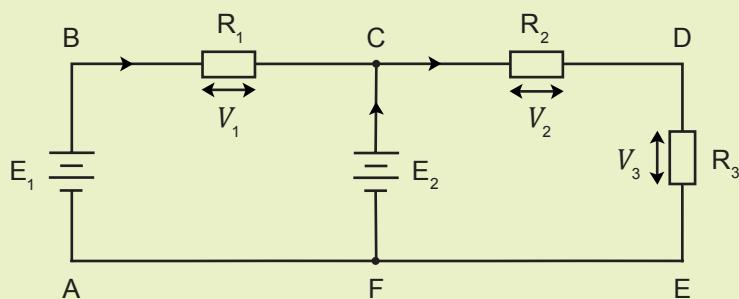

Figure 4.49
- Figure 4.49 shows a circuit. The directions of the currents are indicated.